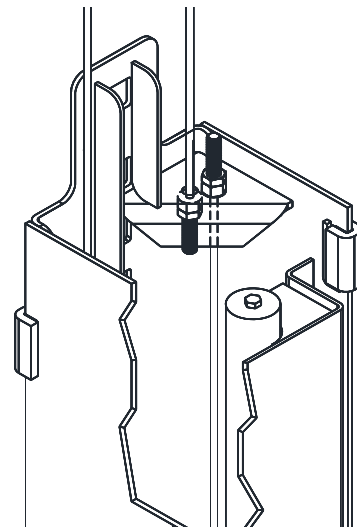

Fig. 10a – Cable Assembly
- 25) Mount synchronizer cables to carriages as shown in **Fig. 10a**.